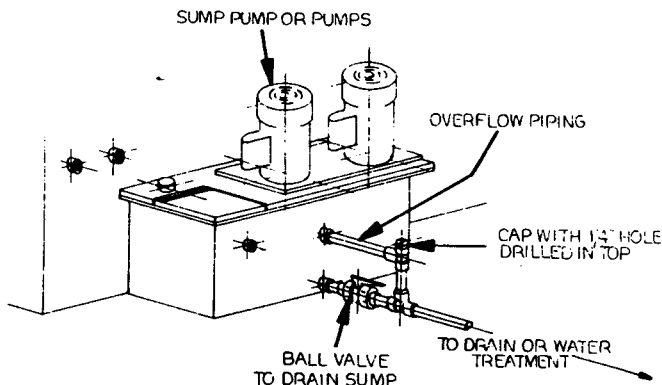

FIGURE 2 — DRAIN AND OVERFLOW PIPING
3. Install drainage piping to overflow and drain outlet per figure 2.